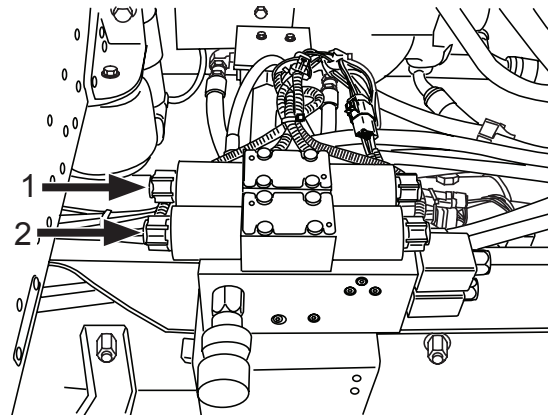

Figure 90
7. Manually shift the start/stop valve spool by pressing in on the end of the spool (Figure 90, Item 1).
8. Manually shift the raise/lower valve spool by pressing in on the end of the spool (Figure 90, Item 2).